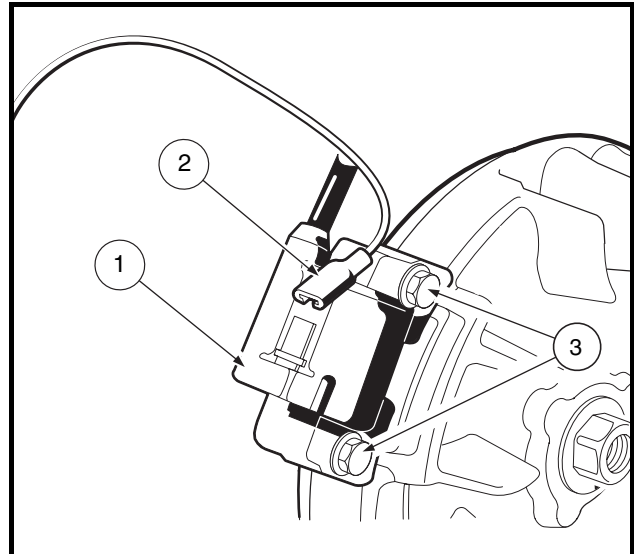

Figure 15-8 Ignition Coil
2. Disconnect the ignition coil (1) from its primary lead wire at the connector (2). Remove the two bolts (3) and take out the ignition coil (**Figure 15-8, Page 15-7**).